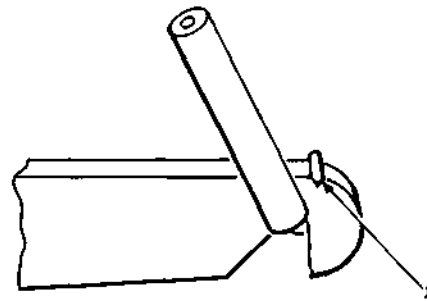

Fig. 7—Termination of Wire on Terminal of a 65- or Similar Type Terminal Strip
8.09 To terminate a wire on a terminal of a 65- or similar type terminal strip, bring the wire along the left side of the terminal, through the notch, back along the right side of the terminal, and across the top as shown in Fig. 7. Cut or break the excess wire at point "X". 20-gauge wire should be cut instead of broken.